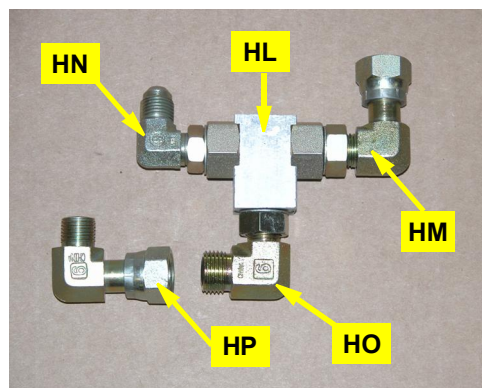

Figure 6a: Prepared load sense shuttle valve
- a. Assemble the load sense shuttle valve **HL** with fittings **HM**, **HN** and **HO**. Connect **HP** to **HO** (Figure 6a).